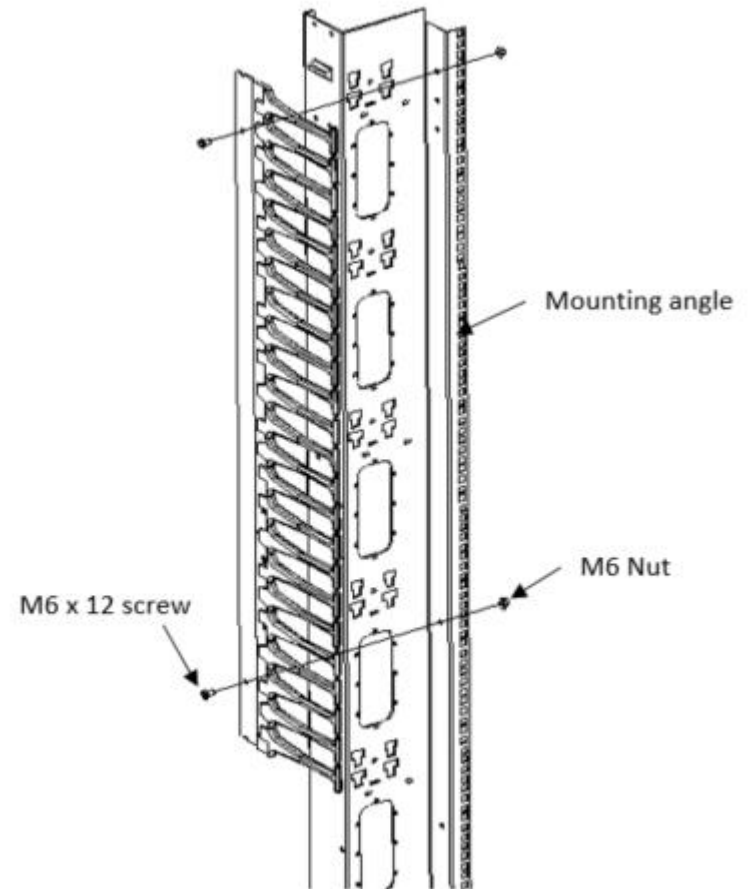

Figure 1
1. Attach the top cable guide to the equipment rail with two M6 x 12mm screws and nuts, see figure 1.